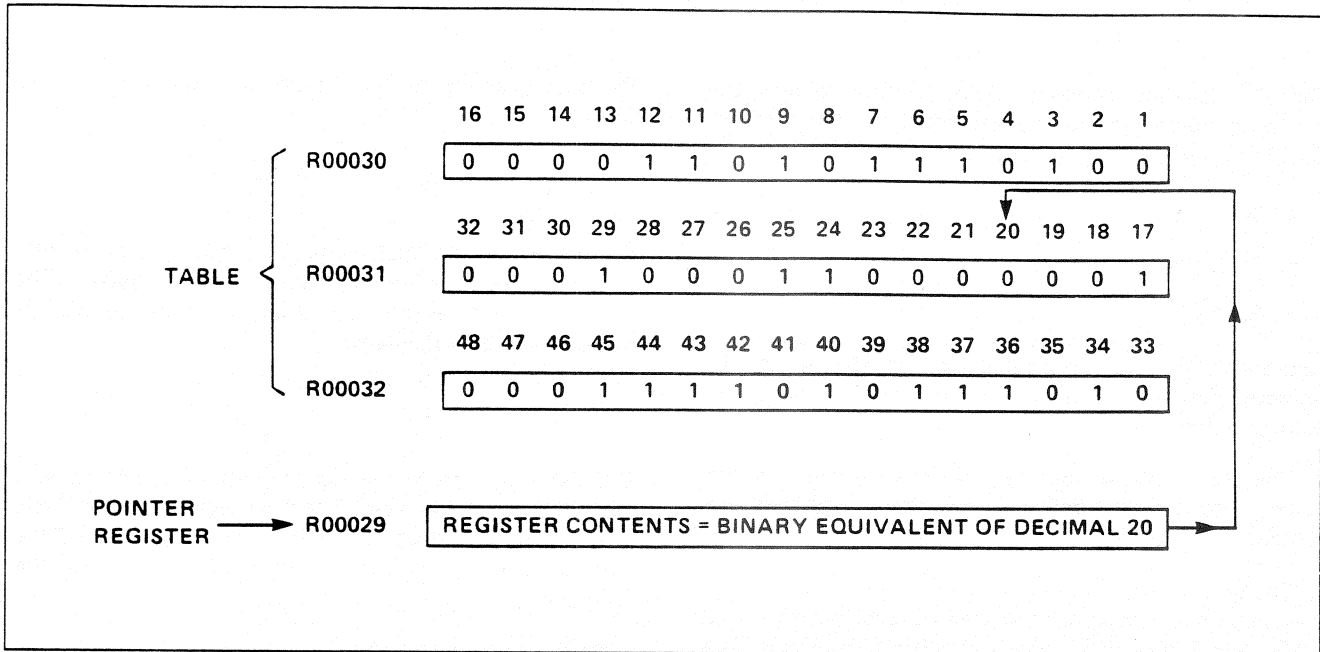

Figure BO-2. Bit Operate Function Example
2. The Pointer Register contains the current bit number. This value is a binary number used to specify a bit in the Table. See Figure BO-2 where bit 20 is referenced. The bits in the Table simply begin with 2 and are numbered consecutively to the end of the Table. In this example, the bits are numbered to 48.
3. In the example shown in Figure BO-2, bit 20 is set to 1 if the enable circuit is conducting and the bit set circuit conducts. Bit 20 is cleared when the enable circuit is conducting, and the bit clear circuit conducts. Also, when the enable circuit conducts, the bit follow output conducts if bit 20 = 1, or does not conduct if bit 20 = 0.